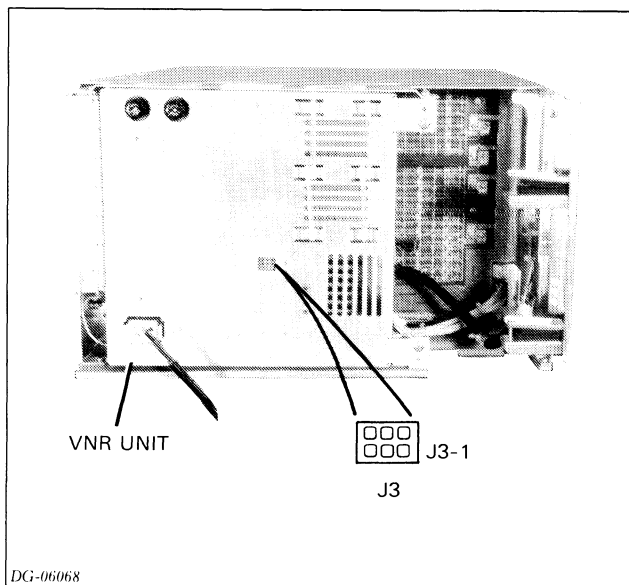

Figure 6.9 Line fuses
- b. Check the **BAT+** voltage at jack J3-1 (see Figure 6.9).
- If **BAT+** is NOT greater than 12V, then measure the voltage difference between J3-5 and J3-6 (see Figure 6.9). If it is greater than one volt, replace the battery; otherwise, replace the VNR unit.